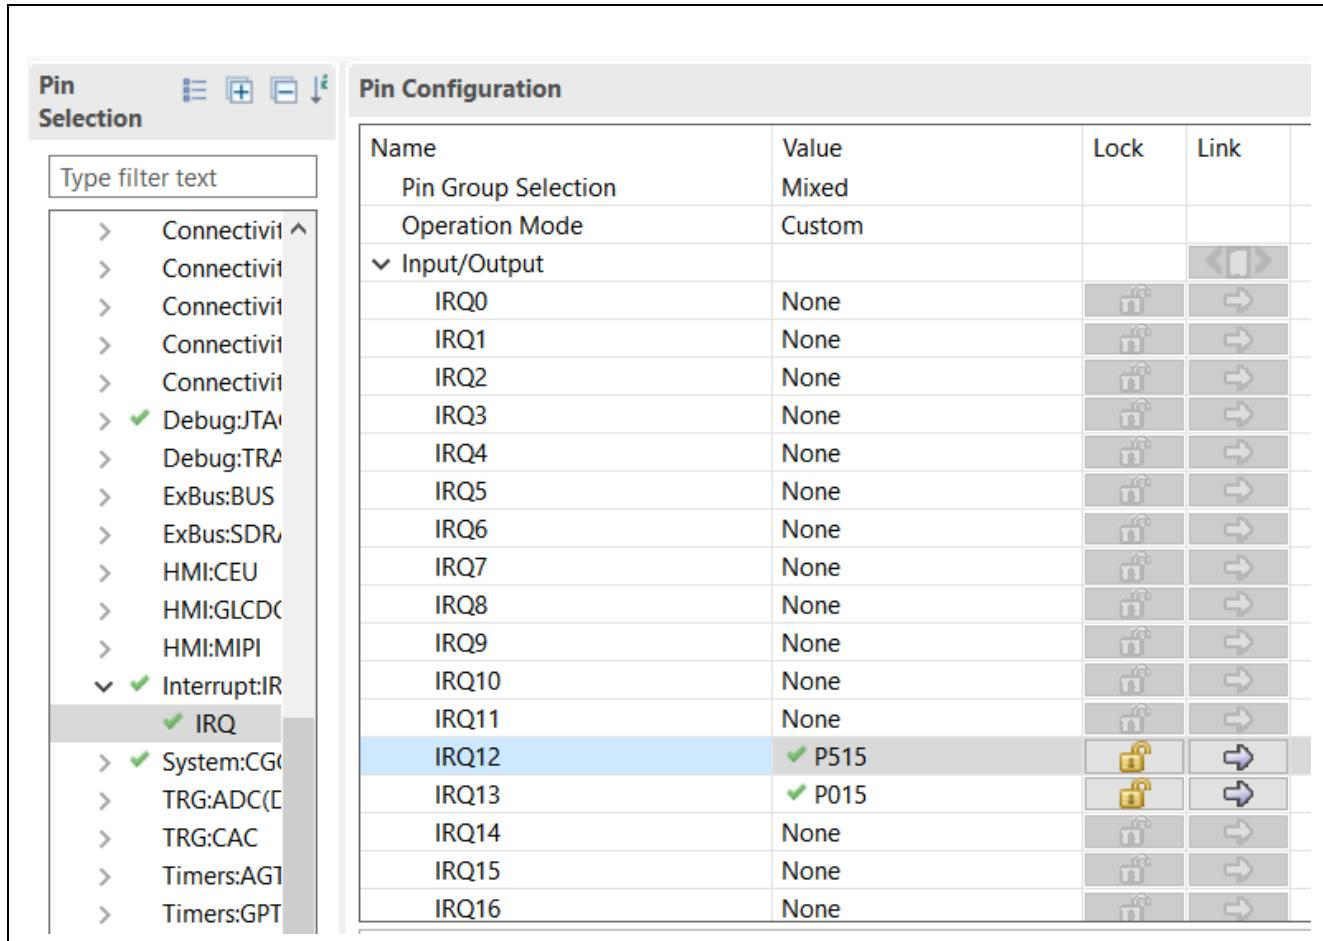

Figure 40. Enable P515, P015 as IRQ12, IRQ13 inputs Respectively using Pin Configurator in Renesas FSP
- Figure 40 and Figure 41 show examples of enabling and configuring IRQ pins using Renesas FSP.